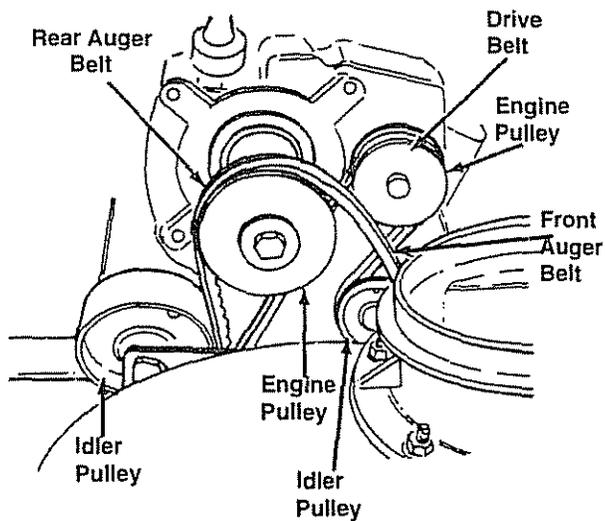

Figure 16
5. Roll the front and rear auger belts off the engine pulley. See Figure 16.
2. Pull idler pulley up, and lift belt off engine pulley and friction wheel disc. See Figure 16.